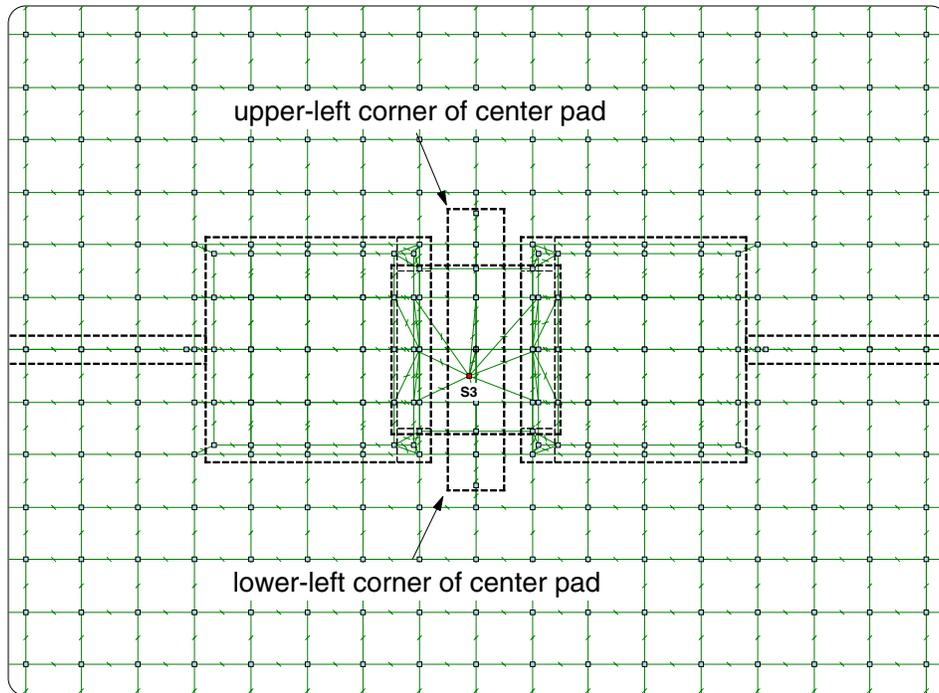

Figure 8: Reference points for adding 12 x 12 pads
Before creating the 12 x 12 pads, you will zoom in to match Figure 8 on the next page. Zooming in is easy, you just use **<F3 Zoom In>** and digitize two times. However, please note that with Sauna digitize means "click and release". It's not hold the mouse button down and drag. With that in mind, zoom in:
<F3 Zoom In> → *digitize 1st point to obtain Figure 8* → *digitize 2nd point to obtain Figure 8*
When complete, the window should roughly match Figure 8. If it's not the desired window, just zoom back out with  and try again.
→ click upper-left corner of center pad (see Figure 8)
**Rectangle → Ref/Dx → click lower-left corner of center pad (see Figure 8)